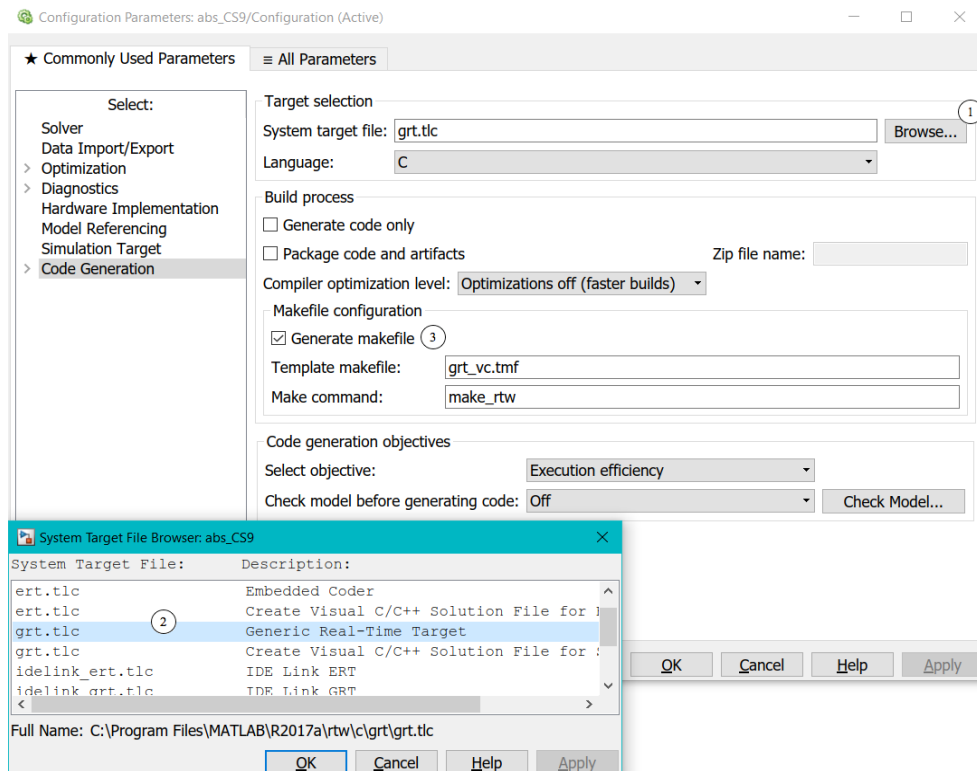

Figure 9. Select Code Generation.
- iii. Click “Browse...” ① (Figure 9) to select “Generic Real-Time Target” ②.
- iv. Check the box for “Generate makefile” ③.